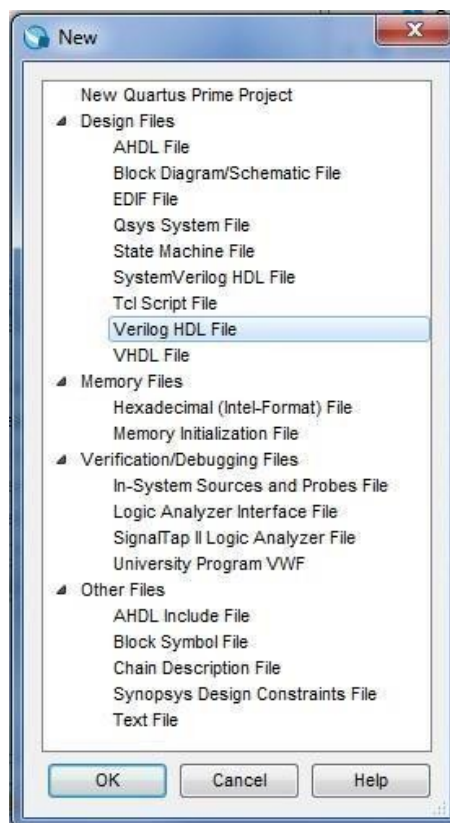

Figure 9: New File Window
- ☐ A window, shown in Figure 9, should pop up. Click on **Verilog HDL File** and then **Ok**.